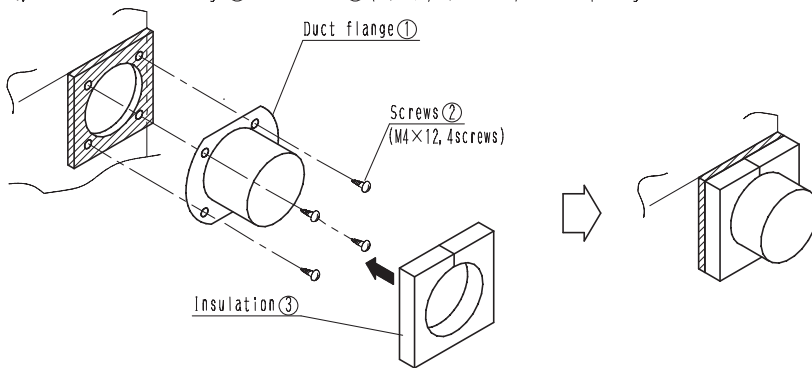

Fig. 3
- Install the duct flange ① with screws ② (M4×12, 4 screws) to the opening and adhere the insulation ③ (Fig. 3)